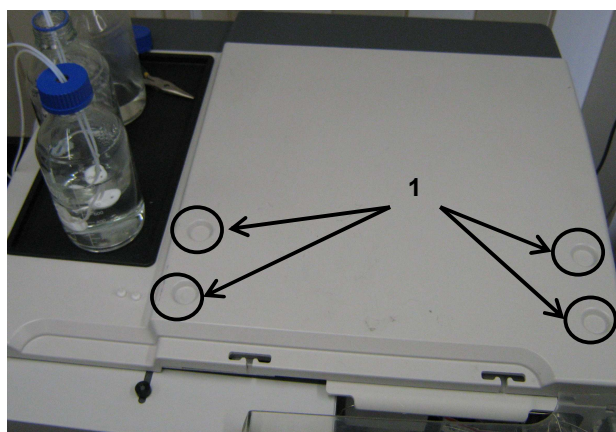

Figure 3: Top of the 940 LC system
2. Once the doors are removed, set the SUM on top of the 940-LC system. The feet on the bottom of the SUM should fit into the indentations (1) in the top cover of the 940-LC system (*Figure 3*).